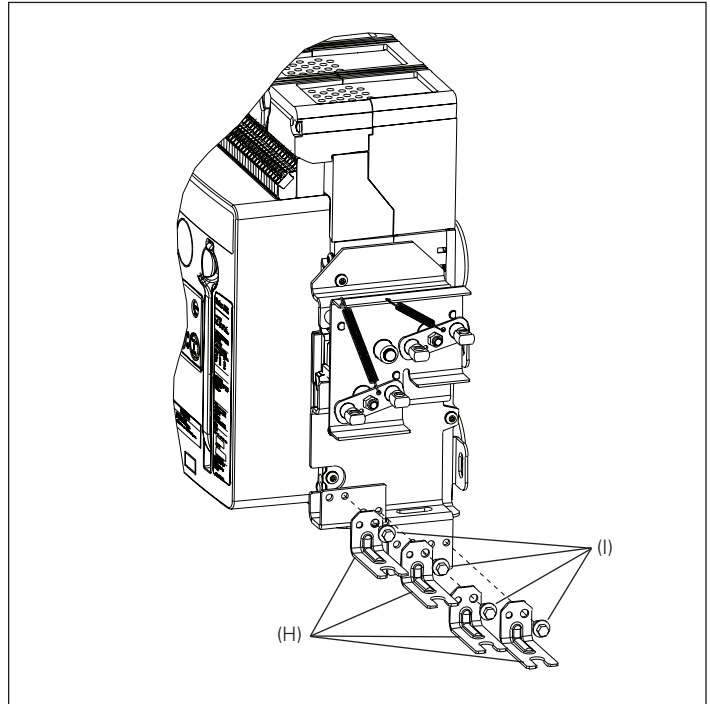

Figure 10. Details for Step 7
Fasten four cable brackets (H) to interlock mounting plate (K) just below interlock assembly mounted in Step 6 using two M6 x 10 mm thread-forming screws (I) as shown in Figure 10. Torque to 7,3–9,6 N·m (65–85 in-lb).
This step contains cable routing and installation procedures. Verify that cables move freely in their cable housings before installation. When attaching cables to swivel fittings, ensure that both ends of the cable are connected to push swivel fittings or both ends are connected to pull swivel fittings (refer to Figure 10). For example, a cable connected to the drive lever pull swivel fitting on Breaker A must connect to the driven level pull swivel fitting on Breaker B.